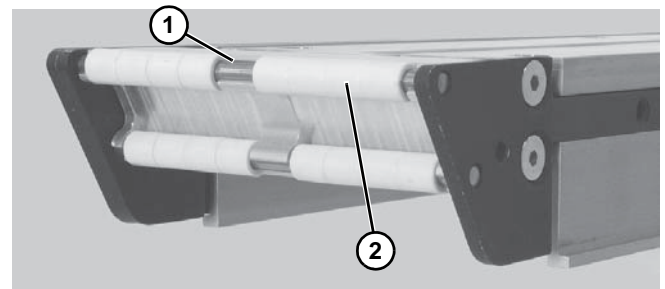

Figure 67
3. Slide bearing rods (Figure 67, item 1) out side of conveyor and replace bearings (Figure 67, item 2) as necessary.